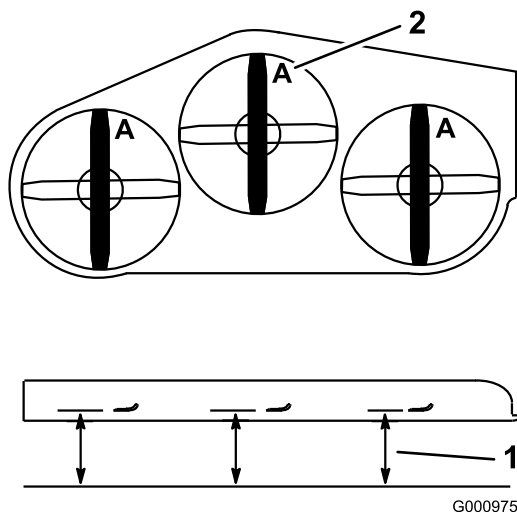

Figure 65
3. Rotate the blades until the ends face forward and backward (Figure 65). Measure from a level surface
to the cutting edge, position **A**, of the blades (Figure 65). Note this dimension.